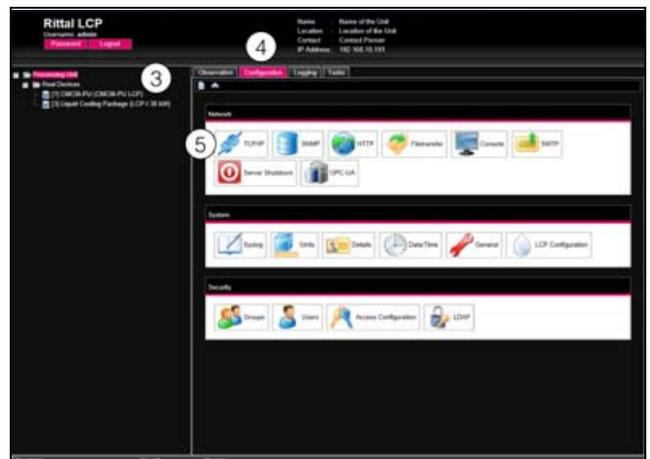

Fig. 49: Adjusting the TCP/IP settings
The overview window for the device will appear (fig. 49).
- In the left-hand section of the overview window, click on the **Processing Unit** entry (fig. 49, item 3) and in the right-hand section, click on the **Configuration** tab (fig. 49, item 4).
- In the group box **Network**, click on the **TCP/IP** button (fig. 49, item 5).